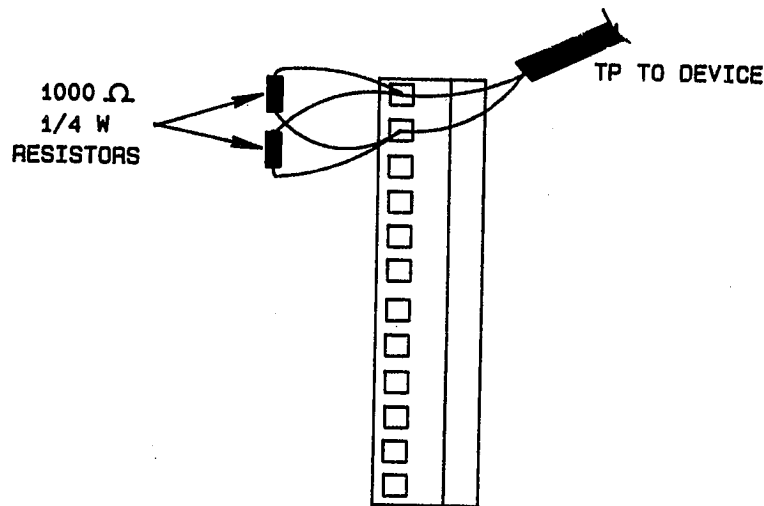

Figure 5 - Converting Analog Output to 2-10 Vdc
**note** To convert 4-20 mA to 2-10 Vdc, you must add two 1000 ohm, 1/4 watt resistors in parallel across the AO pins on the field connector. Refer to Figure 5.